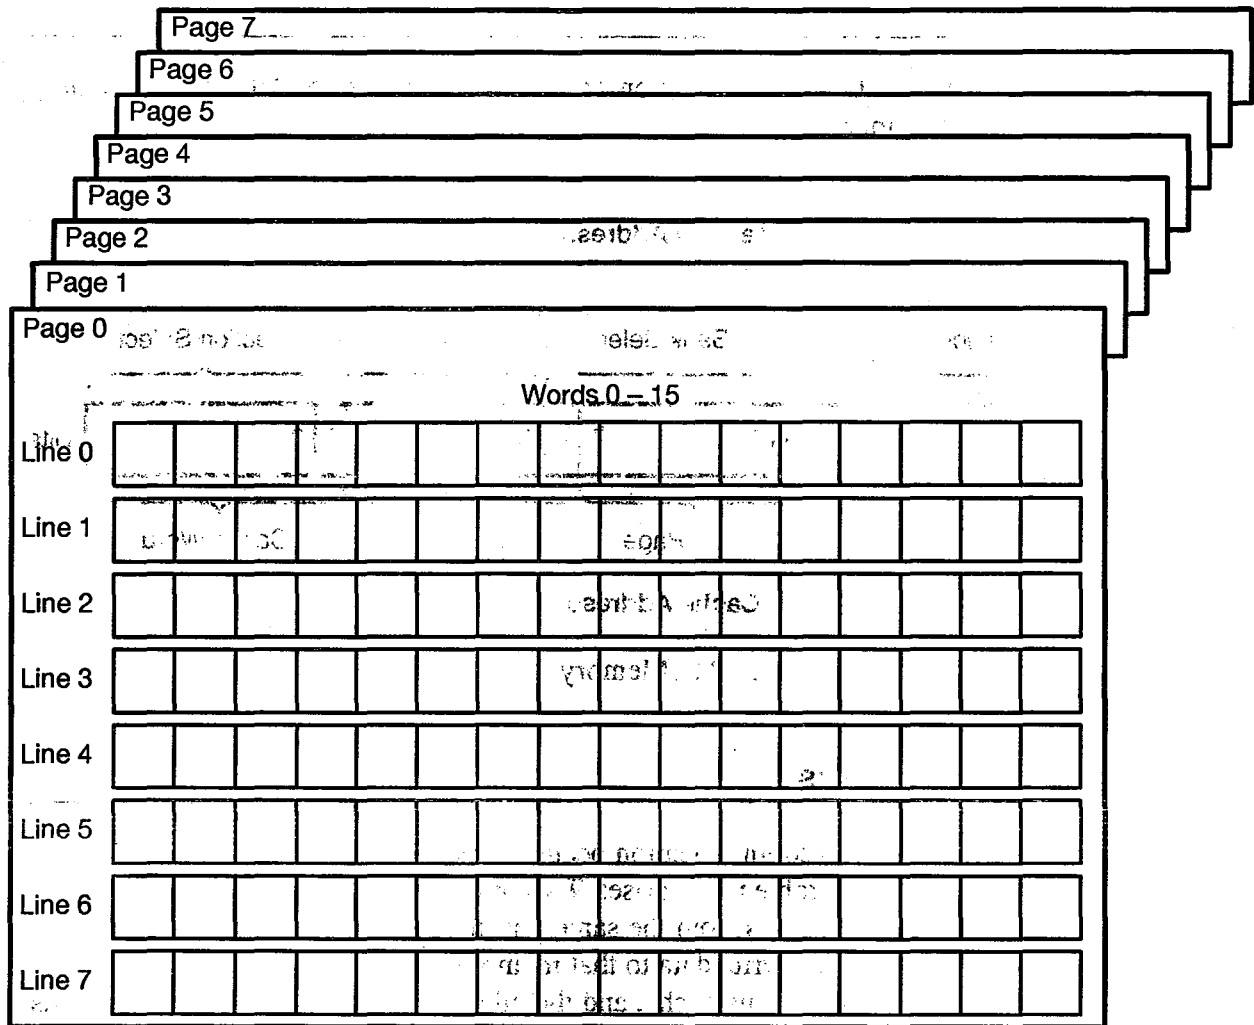

Figure 103. Cache Layout
- The cache is organized into 8 pages of data. Each page contains 8 lines of 16 words, thus providing 1,024 words of data in the cache. Figure 103 illustrates the logical layout of the cache.